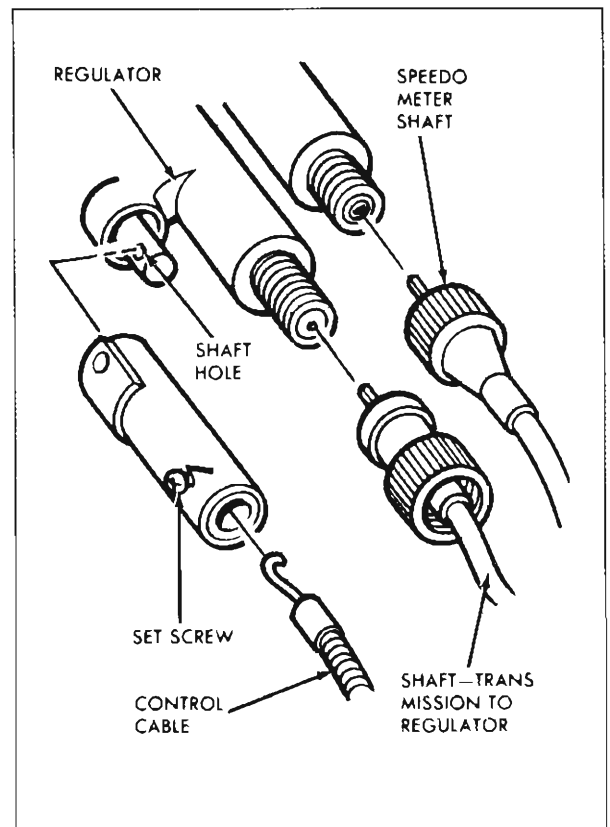

Fig. 73—Control Cable Adjustment
2. Loosen set screw on dust shield, Figure 73. (This screw retains control cable in dust shield.)
4. Push in lightly on control cable at dust shield, making certain that cable is against stop, Figure 73.